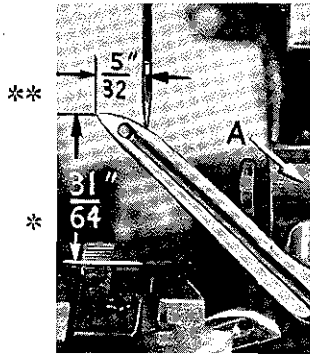

Fig. 10
Next, turn handwheel until looper is at the left end of its travel; check dimensions of upper looper point with respect to needle and throat plate (Fig. 10). If resetting is necessary, do it by moving the upper looper holder (A, Fig. 10). Figure 10 represents the dimensional setting for Styles 39500 A and B.
If it becomes necessary to move looper thread pull-off (T), be sure to take up all end play in needle drive shaft before tightening. If upper looper is located so that it is higher over throat plate than recommended in (Fig. 10), the purl will tend to form near top edge. If upper looper is too low, the purl will form nearer bottom edge.